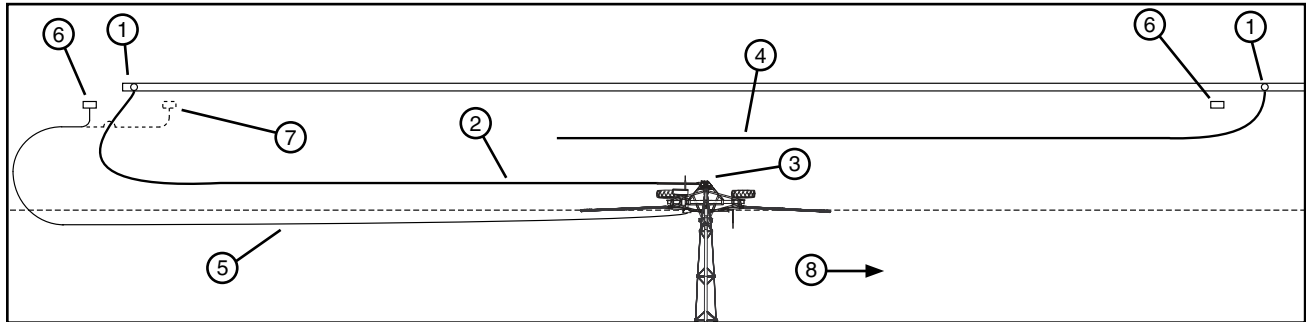

Figure 51-1 1. Shut Off Valve 3. Swivel Inlet 5. Electric Cord 7. Alternate Power Pedestal Location and Electric Cord Position
6. As the machine approaches the end of field/hose stop post, Stop the machine and close the water shut off valve for the first hose. See figure 51-1.